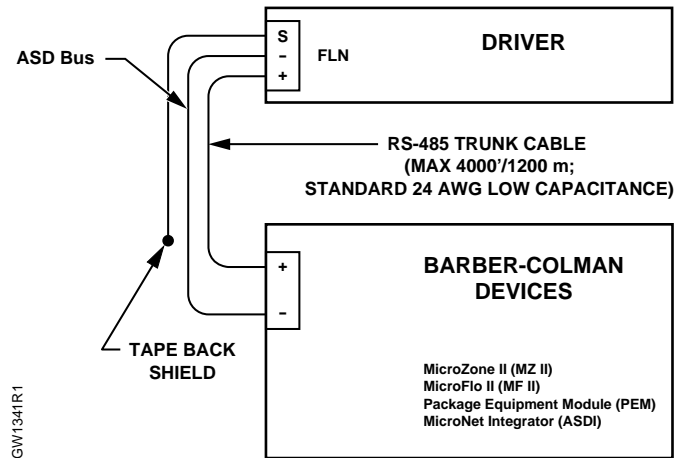

Figure 1. Connecting the Barber-Colman Network 8000 Enhanced Driver to the Barber-Colman System.
1. Make cables per diagram in Figure 1.
2. Connect cables per diagram in Figure 1.